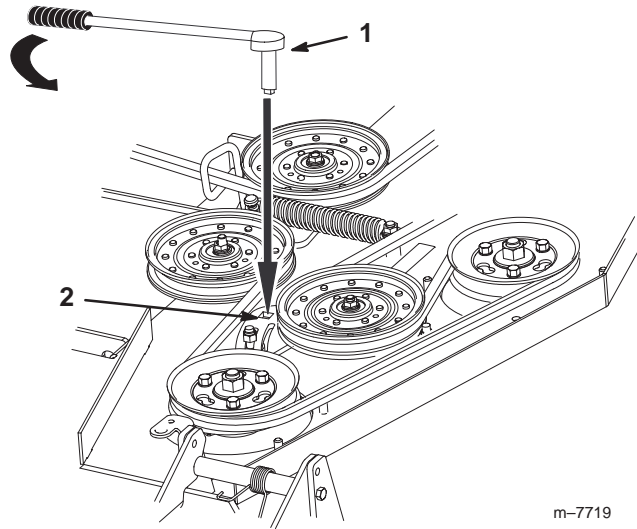

Figure 57
7. Insert a ratchet with a short extension or a breaker bar into the square hole in the fixed idler arm (Fig. 57).